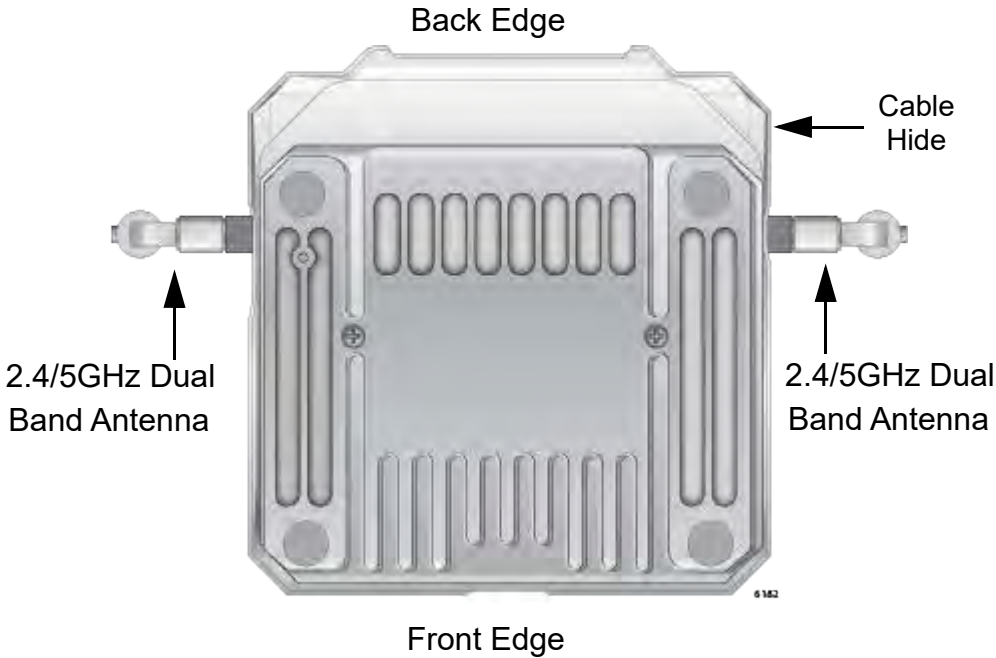

Figure 2. Access Point Bottom View
| Figure 2: Access Point Bottom View .....                                           | 20 |
The bottom view is illustrated in Figure 2.
**Cable Hide** The top cover of the access point is larger than the access point chassis to create space on the back for cable connectors and cables shown in Figure 2 on page 20.